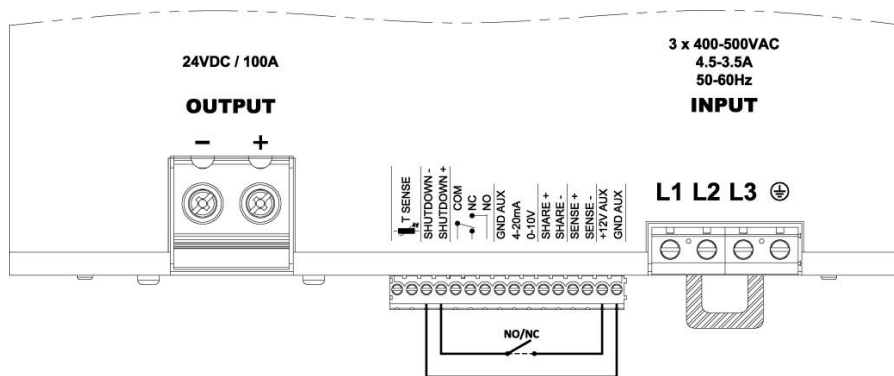

Figure 15 : Remote shutdown input connection by using the AUX power supply
- External switch or relay contact:** by connecting an external switch or relay contact as indicated in Figure 15 the LDT2400 output can be switched ON or OFF by only acting on the switch or relay contact.